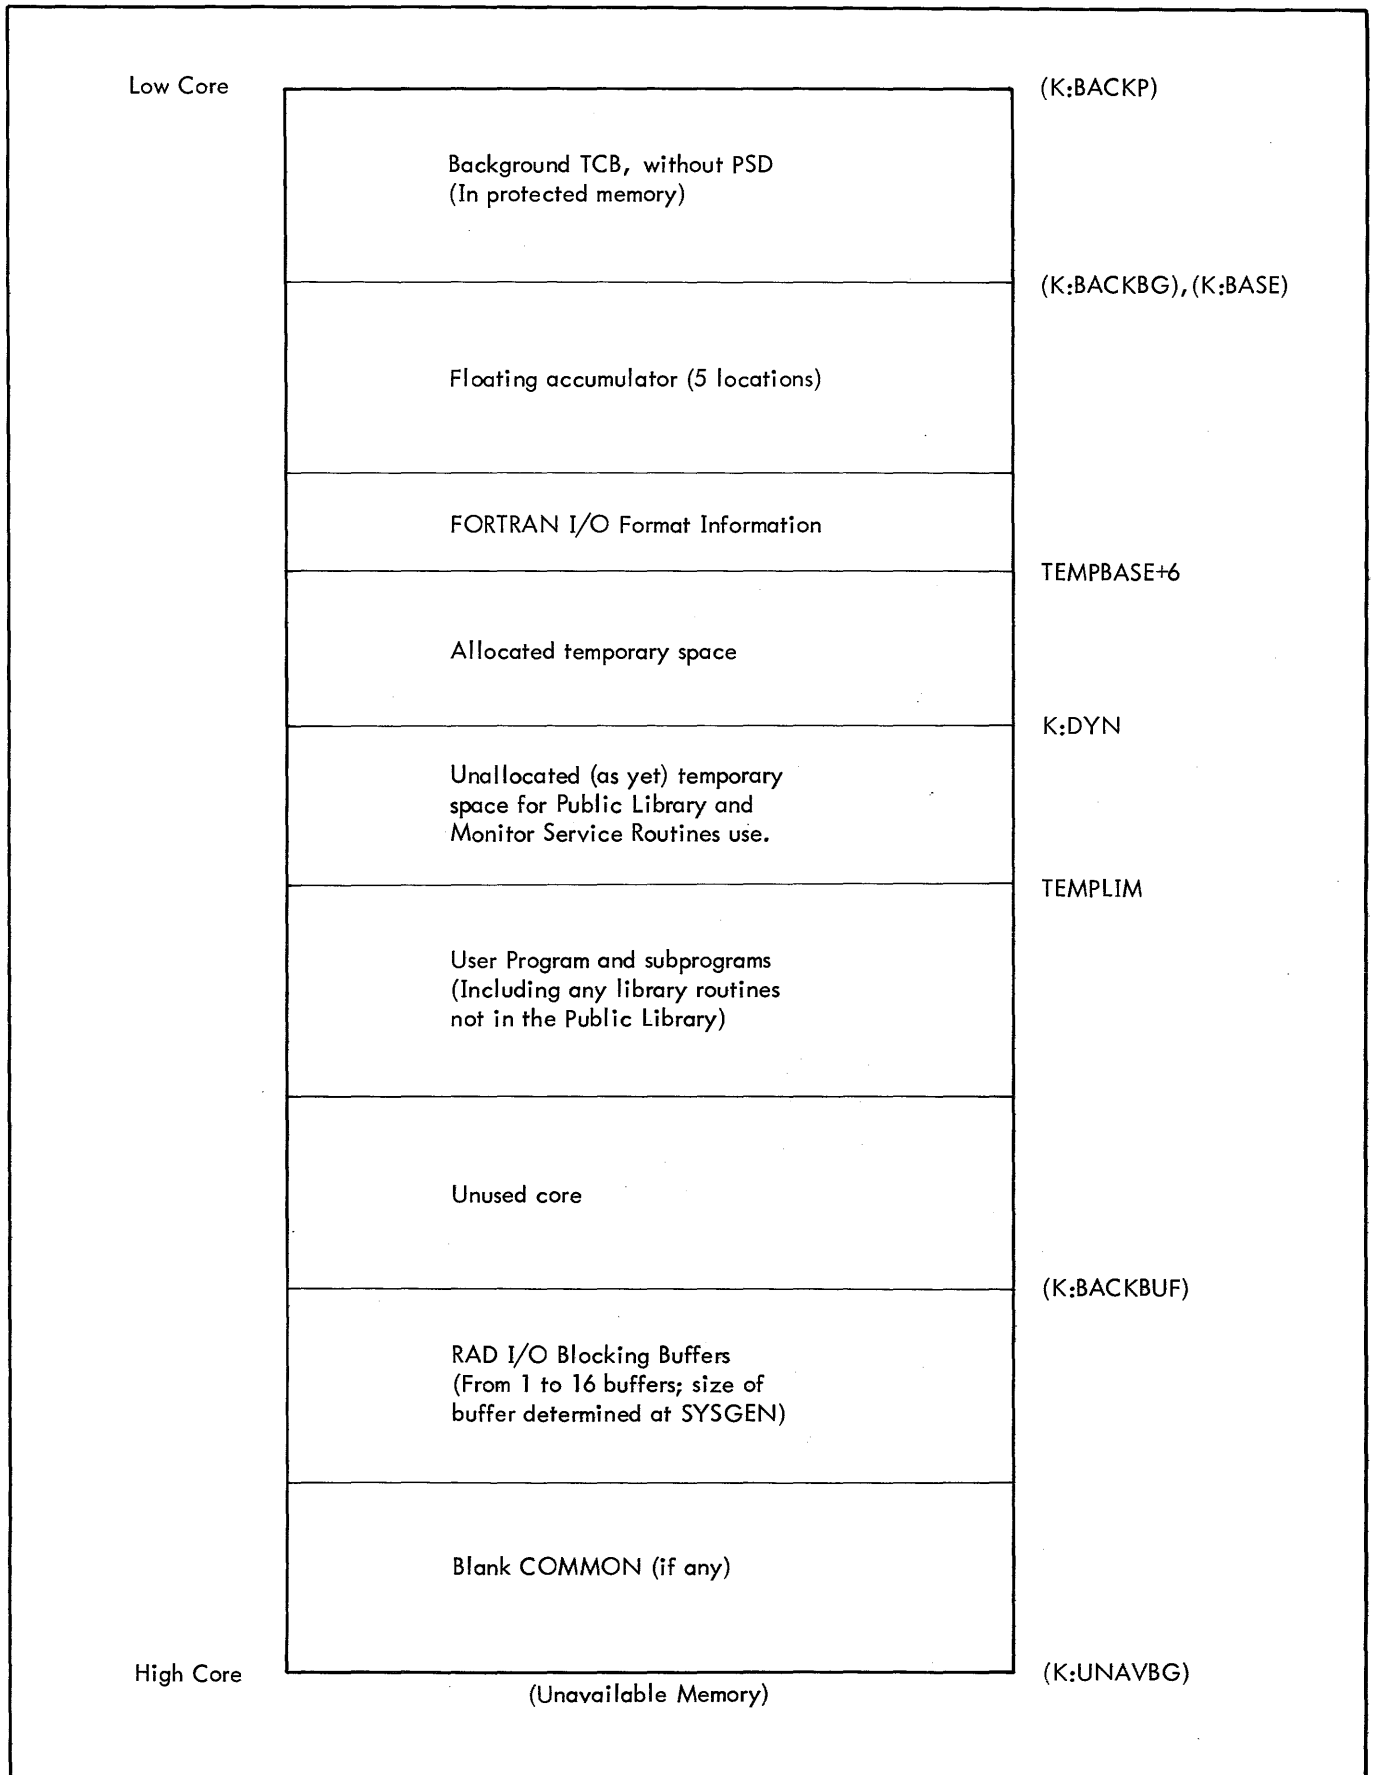

Figure 11. Background Core Allocation Example
- e. Background, at least one page whether or not required; minimum amount allocated should be length of the Job Control Processor (3500 locations, decimal). See Figure 11.